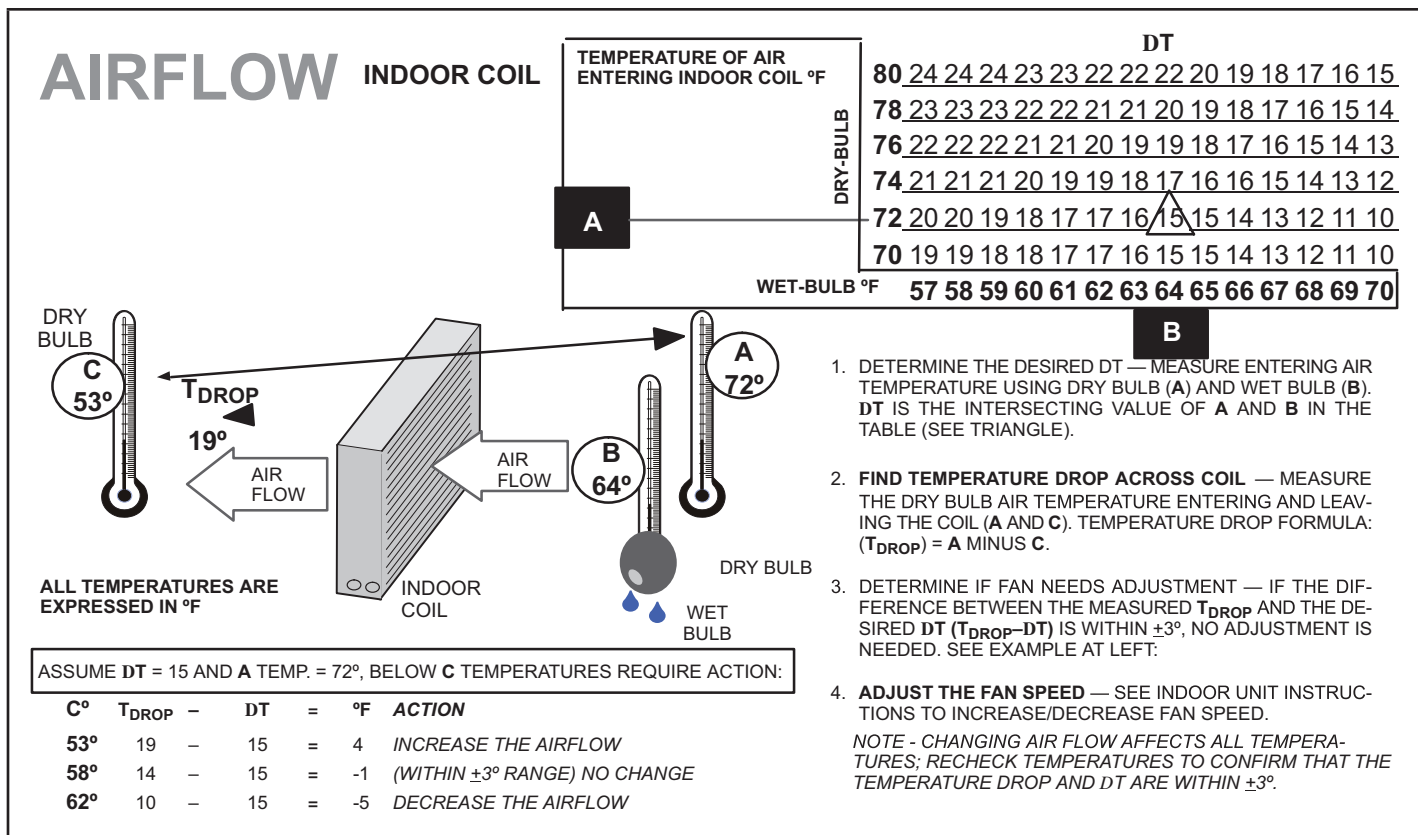

FIGURE 49. Checking Indoor Airflow over Evaporator Coil using Delta-T Chart
- 2 - Check and adjust indoor airflow as described in figure 49.
Check airflow using the Delta-T (DT) process using the illustration in figure 49.